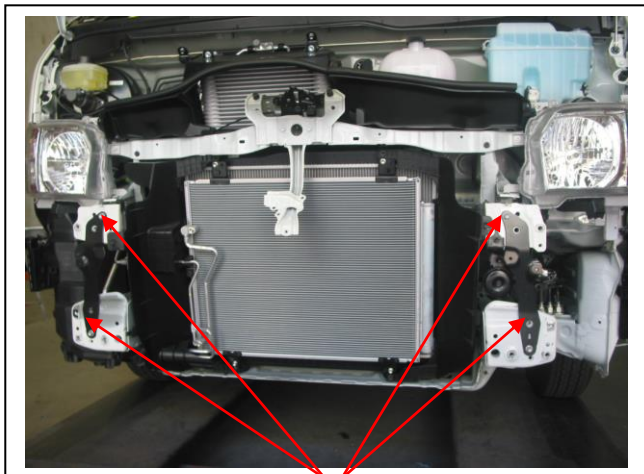

Figure 5
4. Remove two 12 mm head bolts (each side) from front of chassis and remove steel keepers, on passenger side remove temperature sensor from keeper. **See figure 5**.